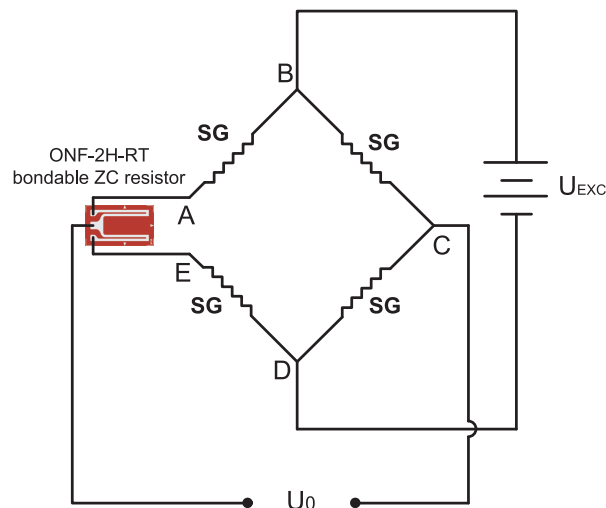

Fig. 1: Sketch of Circuit Using ONF-2H-RT to Compensate Zero-Temperature-Drift
The main part of the zero-temperature-drift can be compensated by using the STC gauges and the fine correction of the zero-temperature-drift can be done by means of the zero-temperature-compensation (ZC) resistors, for example, the ON-series, OB-series or OQ-series bondable ZC resistors from BCM SENSOR. The corresponding bridge circuit is demonstrated in Fig. 1. The resistance of the ZC resistor can be calculated approximately according to the formula:
- U_{IN} = the input voltage of the bridge circuit. In the case of Fig. 1, the U_{IN} is equal to U_{EXC} .